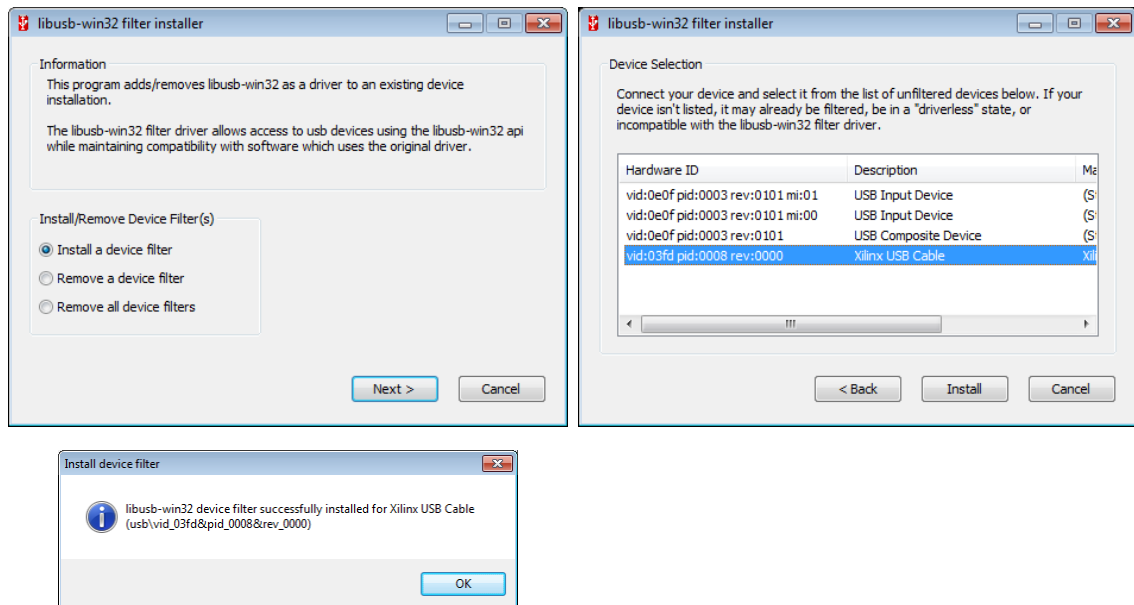

Figure 4.2.
- At the first dialog, as seen in Figure 4.2, choose **'Install a device filter'** and press **Next**.